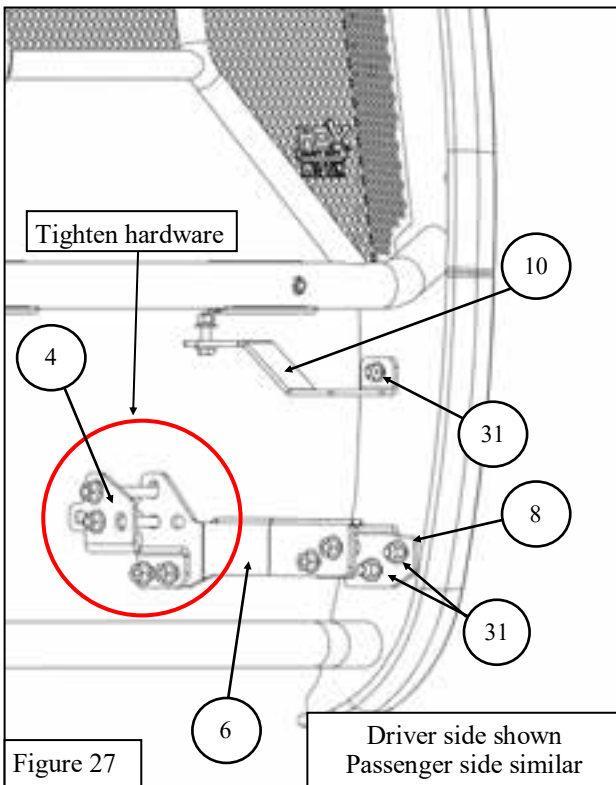

Figure 27
28. Loosely install the Grille Guard Base (**item 1**) onto upper mounting brackets and Lower Mounting Brackets “C” using the M12 hardware (**items 30-32**). See **Figures 27 and 28**.